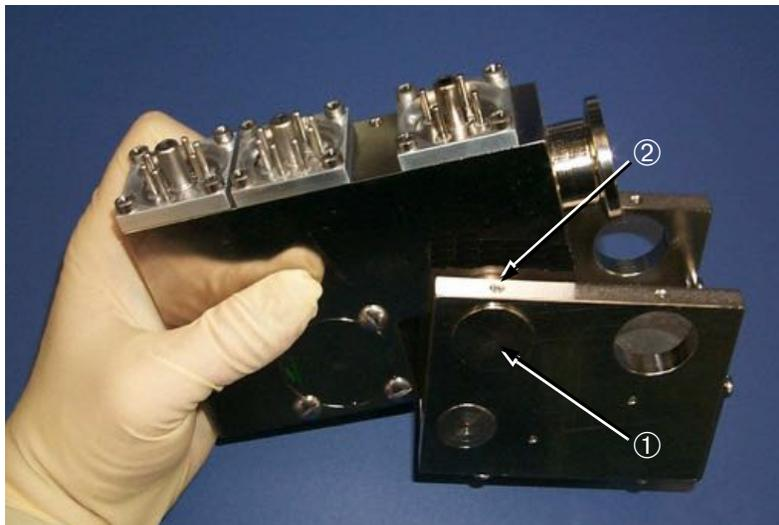

Figure 5-5 Set Screws that Secure the Tuning Magnets
6. Loosen the tuning magnets ① by using a hex wrench to back out the set screws j (located on both sides of the assembly) Figure 5-5. Do not remove the set screws and tuning magnets completely.